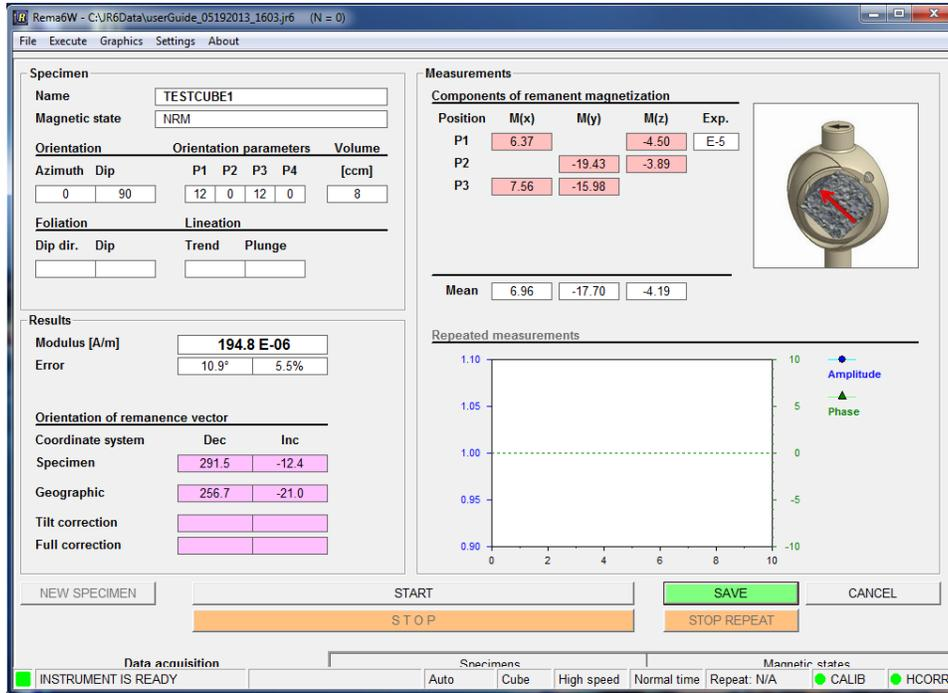

Figure 9: Main screen after sample has been run.
3. Click **New Specimen** in the bottom left corner of the window (Figure 9).
8. Click **OK** in the dialogue box; and when the sample is ready to be run, click **Start** in the main window (Figure 9, mid-bottom).
9. Once the run is completed, click **Save** (Figure 9, green button) in order to save the run and continue to the next specimen, or **Start** in order to redo the run.